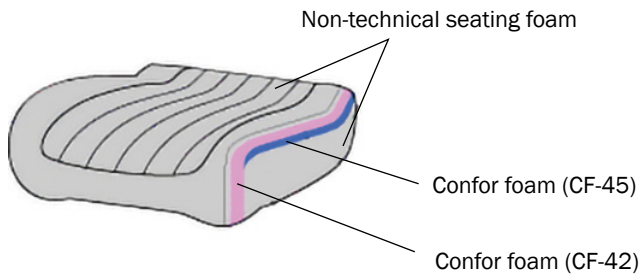

Fig 2: Examples of Composite Ergonomic Cushion
With Confor foams, it is possible to achieve numerous ergonomic properties in a design that traditionally would require the use of multiple materials, some of them used in great quantity and at great cost, coupled with structural or mechanical elements. A relatively thin layer of Confor foam used in combination with traditional high resilience (HR) seating foams, can significantly and cost effectively increase comfort levels in most applications (See Figure 2).